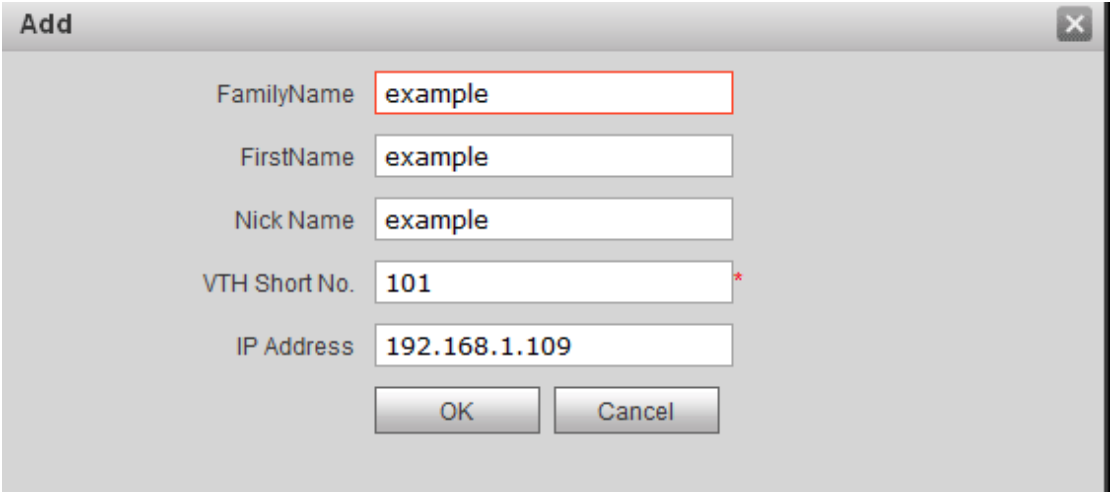

Figure 4- 6
Step 3. Fill in digital VTH basic info. See Figure 4- 6.